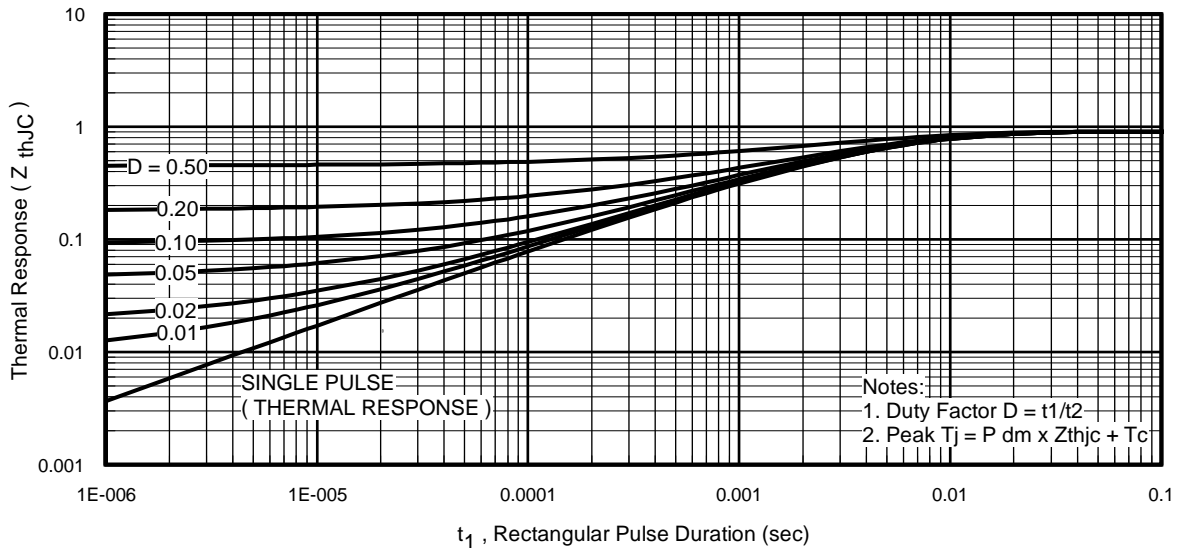

Fig 11. Maximum Effective Transient Thermal Impedance, Junction-to-Case
- ① Repetitive rating; pulse width limited by max. junction temperature. (See fig. 11).
- ② Limited by T_{Jmax} , starting $T_J = 25^\circ\text{C}$, $L = 0.12\text{mH}$, $R_G = 25\Omega$, $I_{AS} = 53A$, $V_{GS} = 10V$. Part not recommended for use above this value.
- ③ $I_{SD} \leq 53A$, $di/dt \leq 420A/\mu s$, $V_{DD} \leq V_{(BR)DSS}$, $T_J \leq 175^\circ\text{C}$.
- ④ Pulse width $\leq 1.0\text{ms}$; duty cycle $\leq 2\%$.
- ⑤ $C_{oss\text{ eff.}}$ is a fixed capacitance that gives the same charging time as C_{oss} while V_{DS} is rising from 0 to 80% V_{DSS} .
$Z_{thJC}(D, t_{av})$ = Transient thermal resistance, see figure 11)